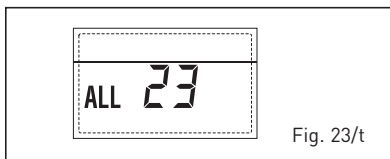

Fig. 23/t
**- SOLAR COLLECTOR SENSOR ERROR (S1) "ALL 24" (fig. 23/18)**